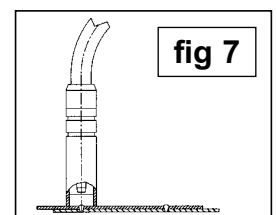

fig 7
- 5.11. **Spot Welding.** Remove the gas cup and fit a spot welding gas cup. Select spot welding by pressing the welding mode button. Press the dual function button below the read-out until the spot welding LED lights up above the read-out. Set the spot weld duration according to the thickness of the metal sheets using the rotational knob. Drill a small hole in the top workpiece. Push the spot gas cup onto the material to be welded (fig 7). The castellations on the cup keep it the correct distance from the weld pool and allow you to push the two pieces being welded together. Press the torch trigger to commence welding. The wire will feed through during the allotted time and welding will stop automatically.